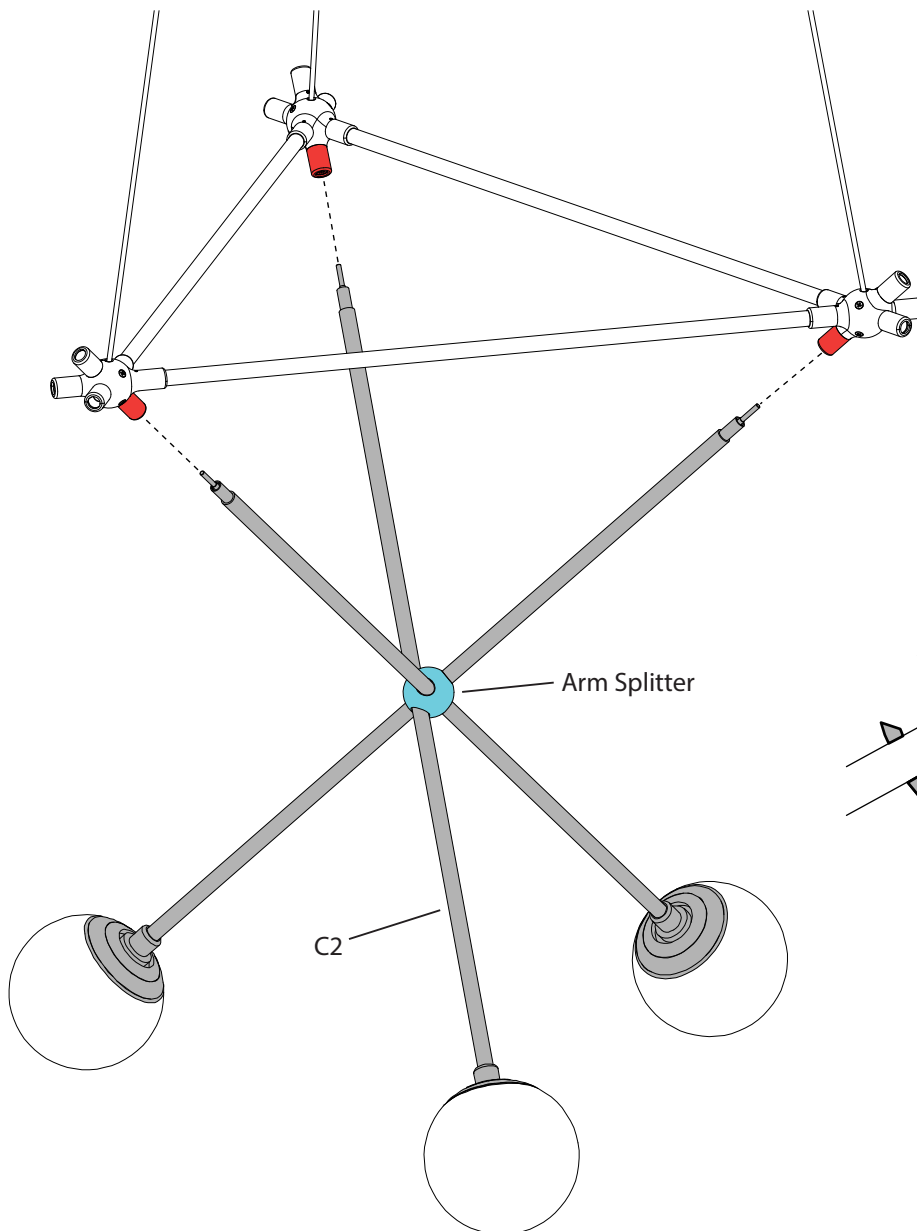

Fig. 5
- Slide those into the 'B' ports of the Connector until it reaches the end, then screw it in until tightened as shown in Fig. 5 & 6. This may require small adjustments to each arm until all are secure.